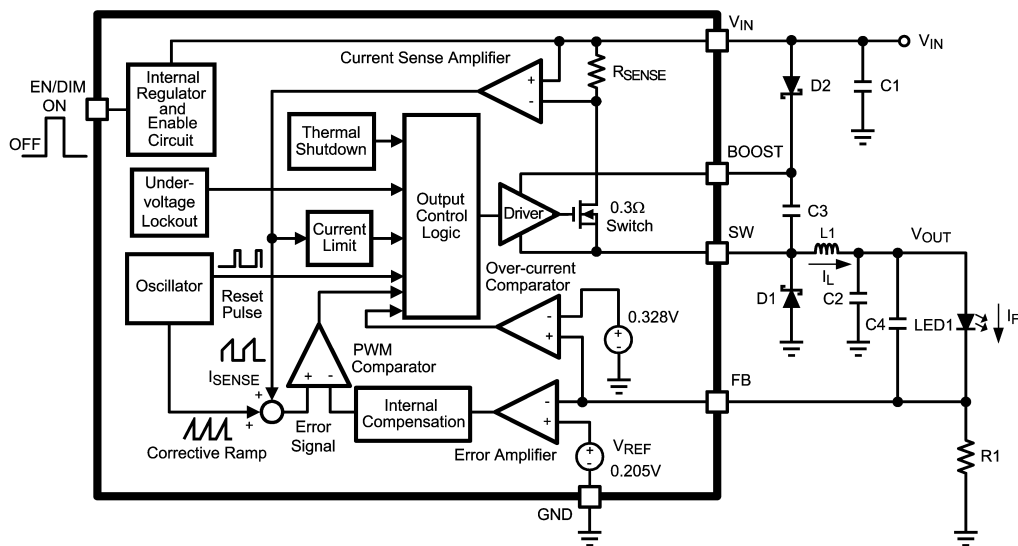
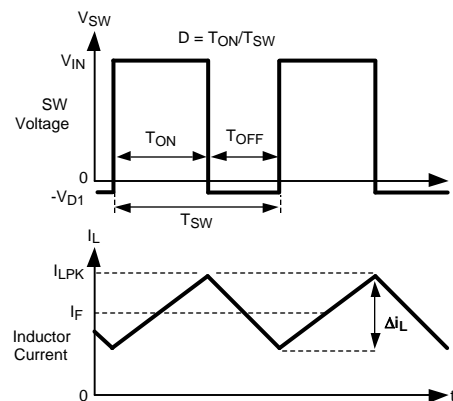

Figure 13. Simplified Block Diagram
Figure 14. SW Pin Voltage and Inductor Current Waveforms of LM3405A
The following description of operation of the LM3405A will refer to the Simplified Block Diagram (Figure 13) and to the waveforms in Figure 14. The LM3405A supplies a regulated output current by switching the internal NMOS power switch at constant frequency and variable duty cycle. A switching cycle begins at the falling edge of the reset pulse generated by the internal oscillator. When this pulse goes low, the output control logic turns on the internal NMOS power switch. During this on-time, the SW pin voltage (V_{SW}) swings up to approximately V_{IN} , and the inductor current (I_L) increases with a linear slope. I_L is measured by the current sense amplifier, which generates an output proportional to the switch current. The sense signal is summed with the regulator's corrective ramp and compared to the error amplifier's output, which is proportional to the difference between the feedback voltage and V_{REF} . When the PWM comparator output goes high, the internal power switch turns off until the next switching cycle begins. During the switch off-time, inductor current discharges through the catch diode D1, which forces the SW pin to swing below ground by the forward voltage (V_{D1}) of the catch diode. The regulator loop adjusts the duty cycle (D) to maintain a constant output current (I_F) through the LED, by forcing FB pin voltage to be equal to V_{REF} (0.205V).
Capacitor C3 and diode D2 in Figure 13 are used to generate a voltage V_{BOOST} . The voltage across C3, $V_{BOOST} - V_{SW}$, is the gate drive voltage to the internal NMOS power switch. To properly drive the internal NMOS switch during its on-time, V_{BOOST} needs to be at least 2.5V greater than V_{SW} . A large value of $V_{BOOST} - V_{SW}$ is recommended to achieve better efficiency by minimizing both the internal switch ON resistance ($R_{DS(ON)}$), and the switch rise and fall times. However, $V_{BOOST} - V_{SW}$ should not exceed the maximum operating limit of 5.5V.
The first method is shown in the Simplified Block Diagram of Figure 13. Capacitor C3 is charged via diode D2 by V_{IN} . During a normal switching cycle, when the internal NMOS power switch is off (T_{OFF}) (refer to Figure 14), V_{BOOST} equals V_{IN} minus the forward voltage of D2 (V_{D2}), during which the current in the inductor (L1) forward biases the catch diode D1 (V_{D1}). Therefore the gate drive voltage stored across C3 is:
The inductor value determines the output ripple current (Δi_L , as defined in Figure 14). Lower inductor values decrease the size of the inductor, but increases the output ripple current. An increase in the inductor value will decrease the output ripple current. The ratio of ripple current to LED current is optimized when it is set between 0.3 and 0.4 at 1A LED current. This ratio r is defined as: